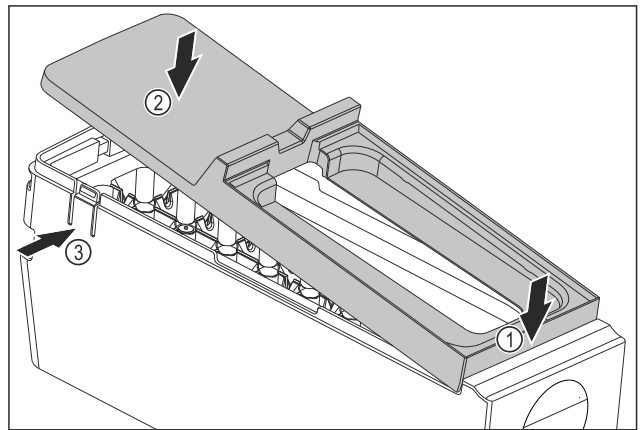

Fig. 200
- ▶ Installing the EasyTwist-Ice body cover: Place the cover on the front. Fig. 200 (1)
- ▶ Lower the cover at the rear. Fig. 200 (2)
- ▶ The cover locks into both tabs Fig. 200 (3) audibly.